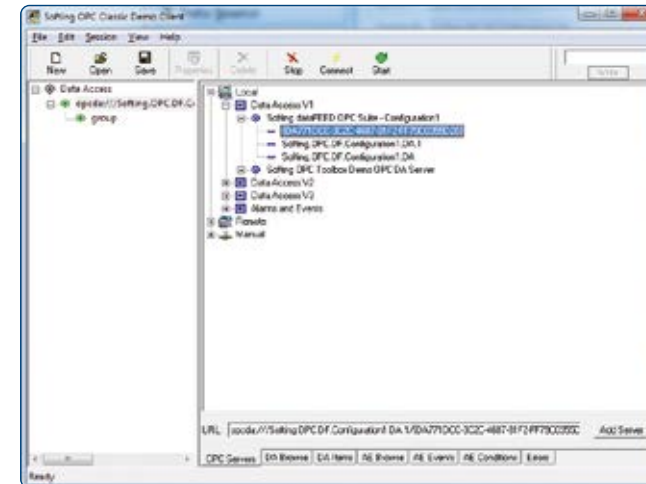

Figure 82: Activation of the DA Server.
17. The Server is added to the left terminal and with a green status indication (Figure 82).